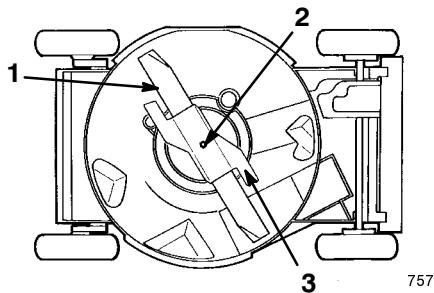

Figure 22
4. Tip the lawnmower onto its **right** side (air filter up) (Fig. 22).